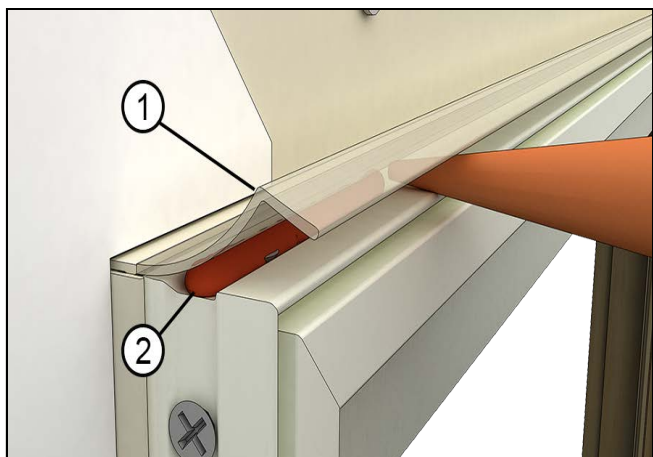

Figure 13
5. Apply a continuous bead of sealant beneath the vinyl drip cap along the top of the head jamb as shown in Figure 13